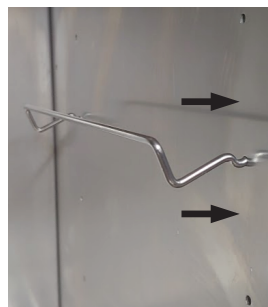

FIG. 2
- 1 Align bracket ends with holes located inside the ovens walls (FIG. 2)